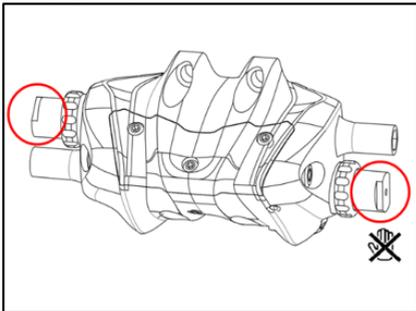

Fig. K-1 Do not press the cylinder
- Please do not press the circled cylinder section before the brake assembly is complete. Pressing the cylinder before assembly may cause unexpected braking characteristics. **(Fig. K-1)**